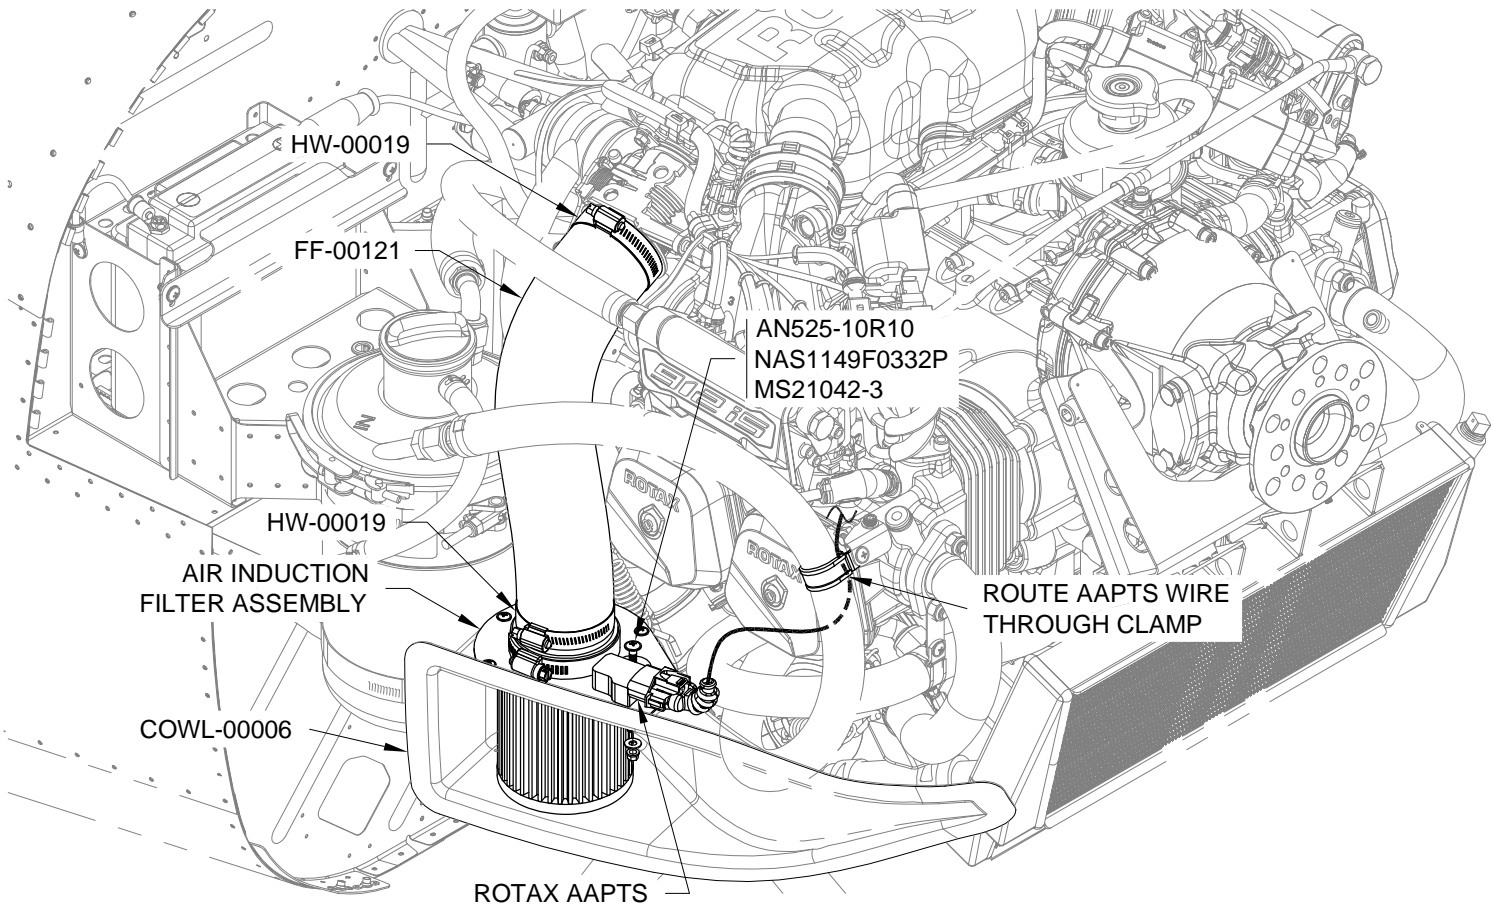

FIGURE 2: AIR INDUCTION FILTER ASSEMBLY ATTACHMENT
Step 5: Attach the unmodified end of the FF-00121 to the engine and the modified end to the Air Induction Filter Assembly (i.e. FF-00122) as shown in Figure 2.
Step 6: Attach the Rotax Ambient Air, Pressure, Temperature Sensor (AAPTS) to the Air Induction Filter Assembly as shown in Figure 2.